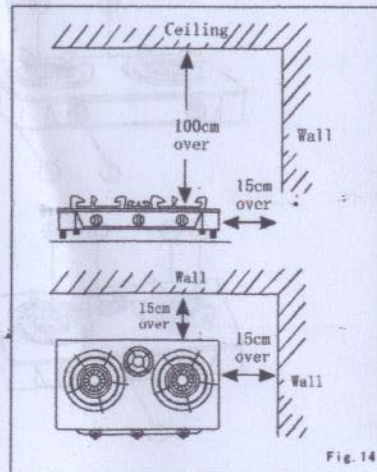

Fig. 14
8. When choosing a place to put the gas stove, be sure to pick a spot that is firm and level. The gas stove need plenty of space and air. Allow at least 15cm of space on the sides and 100cm above the unit. (Fig. 14) if the space is less Than 15cm from the in-flammable walls, be sure to provide a heat insulation board. also be sure to keep paper, oil, and all other inflammable objects away from the gas stove.